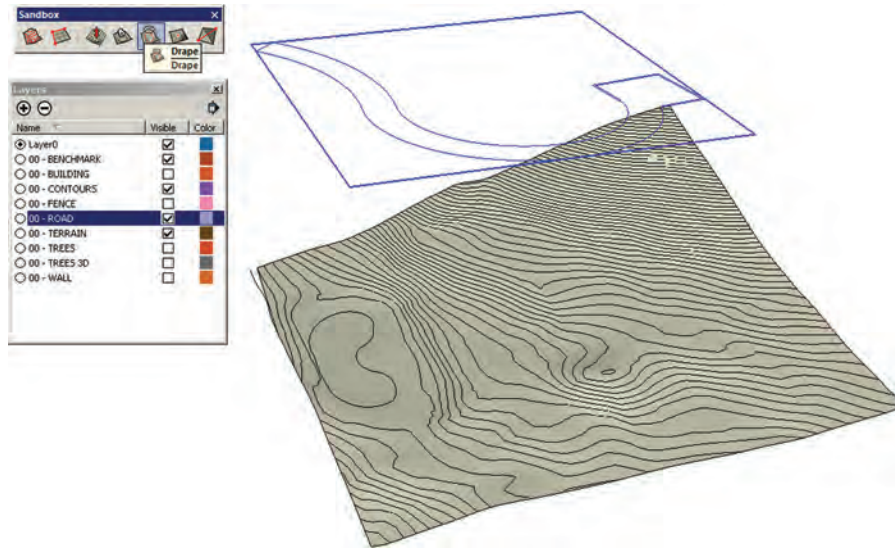

Fig. 15-10: Turn on the Road layer. Select the Road group and then the Drape option in the Sandbox tools.
1. Turn on the Road layer. Select the Road group, and then select the Drape option in the Sandbox tools (Fig. 15-10).